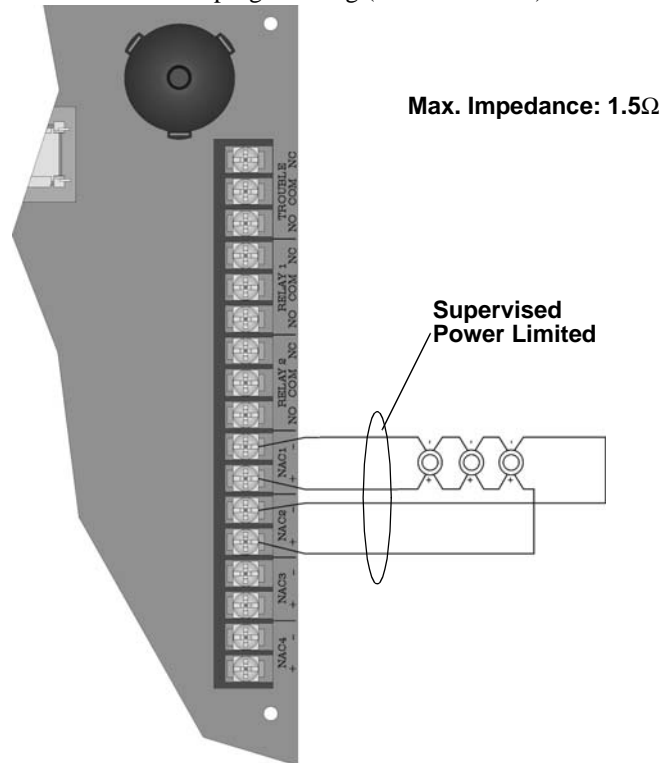

Figure 4-28 Class A Notification Appliance Circuit Configuration
1. Wire the Class A notification appliances as shown in Figure 4-28.